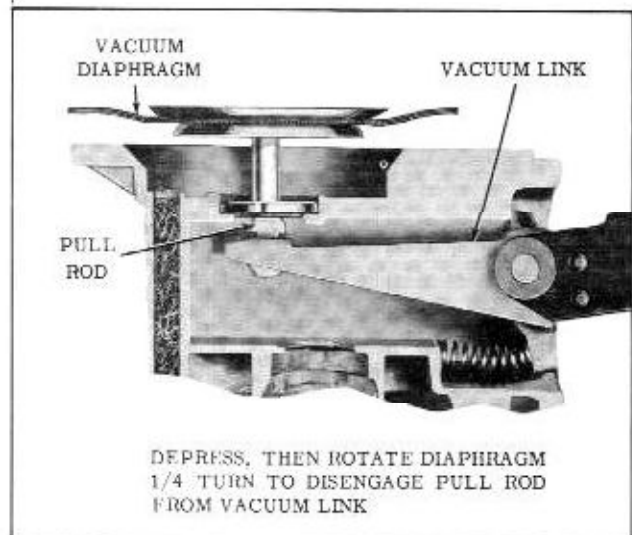

Fig. 8-69 Pull Rod and Vacuum Link
- Remove vacuum diaphragm by turning diaphragm 1/4 turn and pulling straight out. (Fig. 8-69)